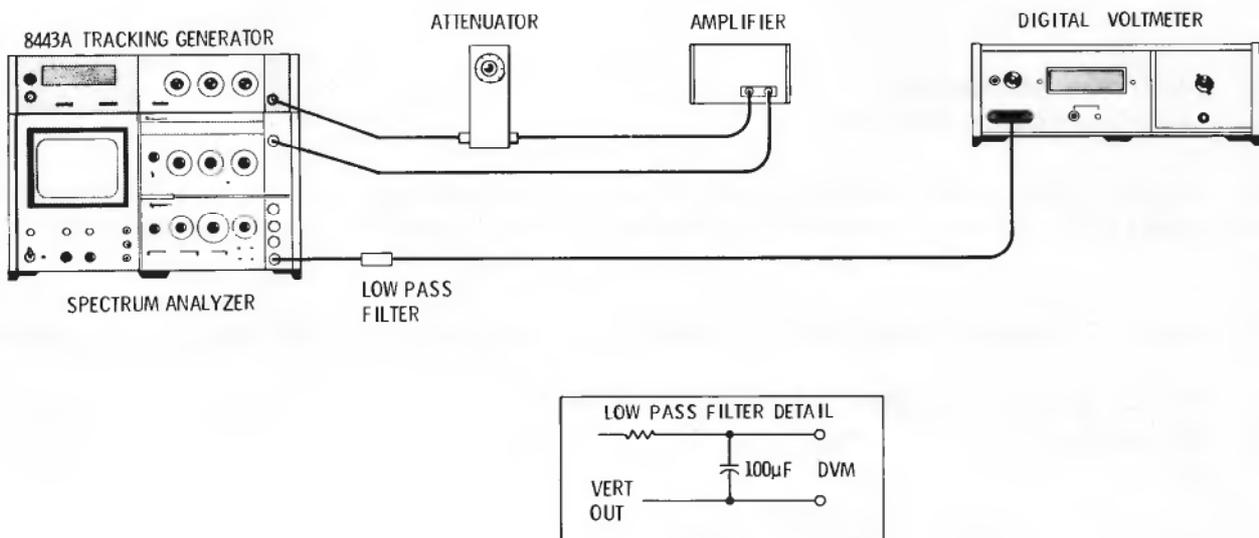

Figure 4-2. Amplitude Range Test Setup
2. Use very short double shielded cables to connect the equipment as shown in Figure 4-2. A low-pass filter (100 microfarad) is required between the vertical output of the 8552 and the digital voltmeter.